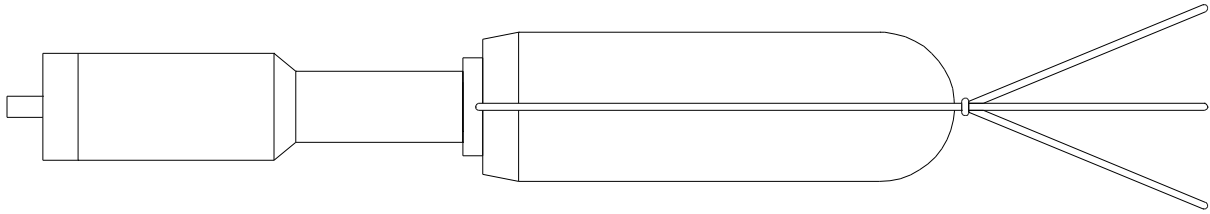

Fig. 6. Completely assembled weatherproof microphone WK-21WP.
- Fig. 6 shows completely assembled weatherproof microphone WK-21WP.